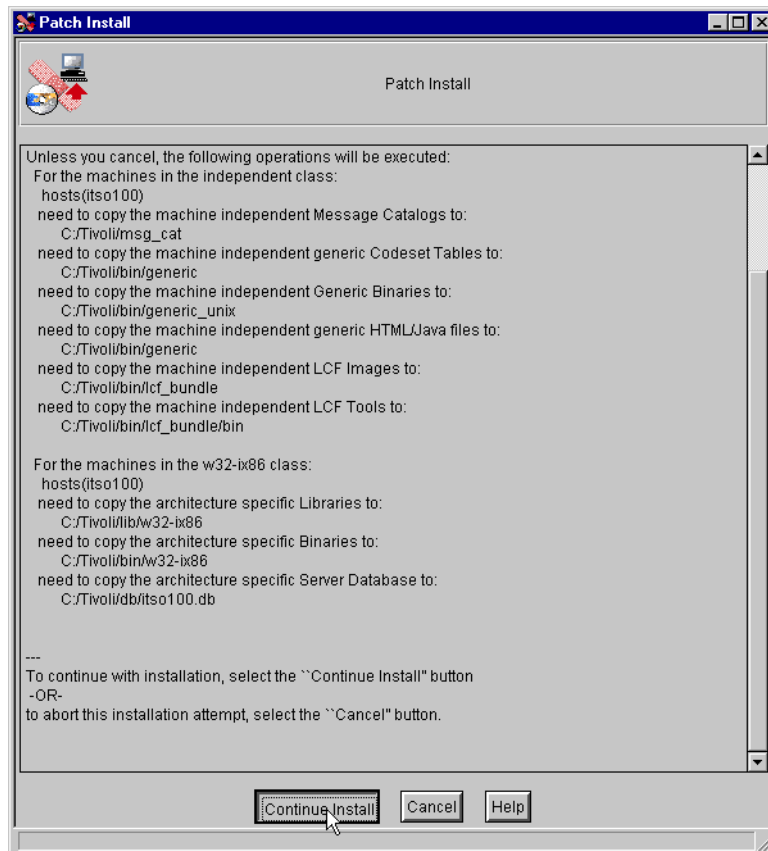

Figure 33. Patch Install information
27. You will receive a window similar to the one in Figure 33 on page 54. Click **Continue Install**.